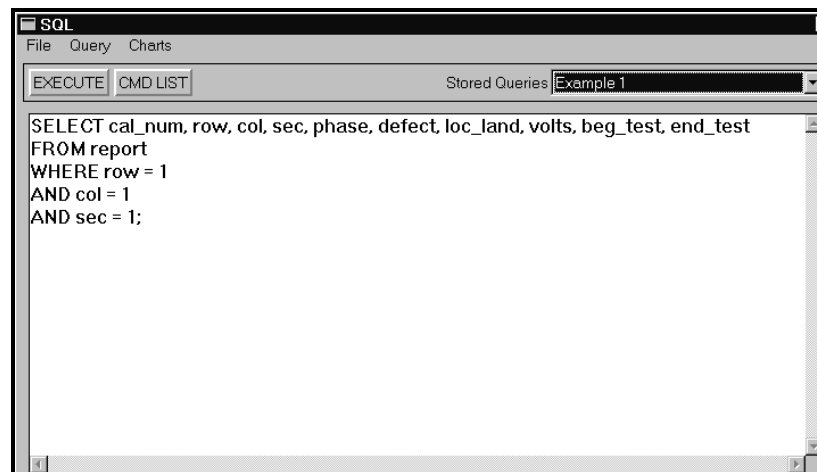

Figure 3-84. Restored Query
- Stored Queries Menu lists the queries stored to the database using Query > Store or Query > Store As explained above. As seen in Figure 3-84, choosing the query name in the pull-down menu will cause the query to appear in the SQL Area. If edits are done to the query and you wish to save it under the same name, use Query > Store. If you wish to store it under a distinct name, use Query > Store As. See Query > Store for an explanation of *stored* vs. *saved* queries.